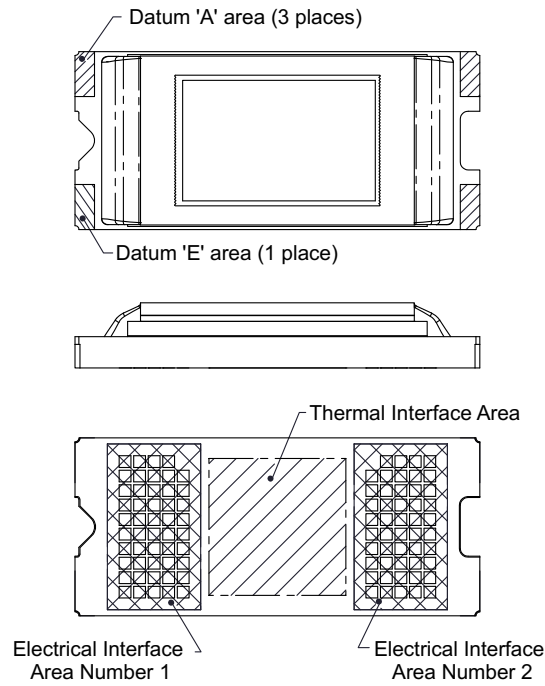

Fig 7-3. System Interface Loads for FQD
- (1) See and Fig 7-3 for diagrams.
- (2) See Mounting Concepts DLP4500FQD.